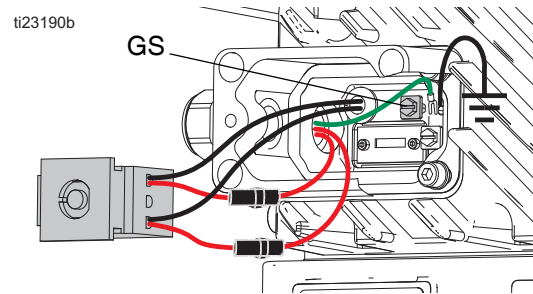

FIG. 21: Grounding Screw
10. Route the wires through the fan cord grip (C1) attached to the driver (not the junction box (BC)).
11. Reattach the ground wire to the grounding screw. Tighten the ground screw. See FIG. 21.
12. Use a ferrule to connect each fan wire to one of the two wires coming out of the motor grommet. Then attach one wire set into the disconnect box location 1L1, and the other wire into location 5L3. See FIG. 21.